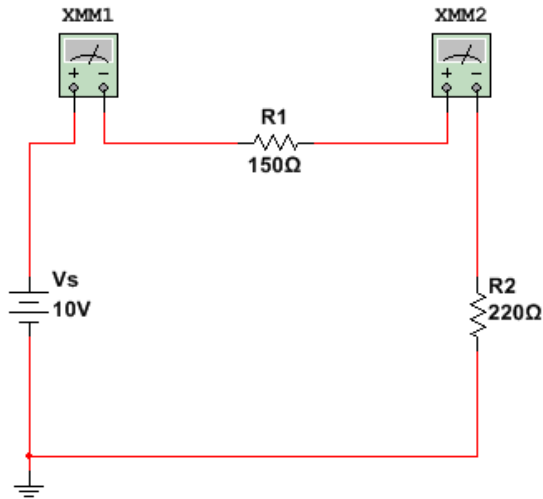
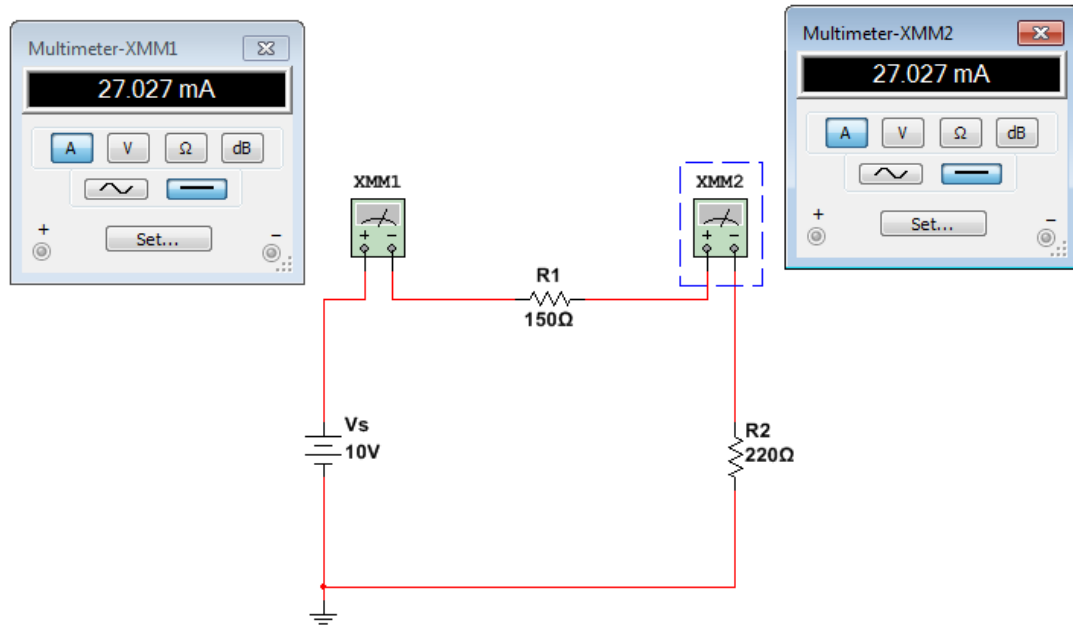

Figure 4.13 – Measuring the current through 150  $\Omega$  and 220  $\Omega$  resistors
Figure 4.15 – To measure current through R1 and R2
- Obtain another multimeter from the instrument toolbar and connect the multimeter in between the break. Check Figure 4.13.
- Since the circuit at Figure 4.13 is set to measure dc current, to do so, click on Ammeter  to measure the current flowing the circuit in a branch between the two nodes. Check Figure 4.15.